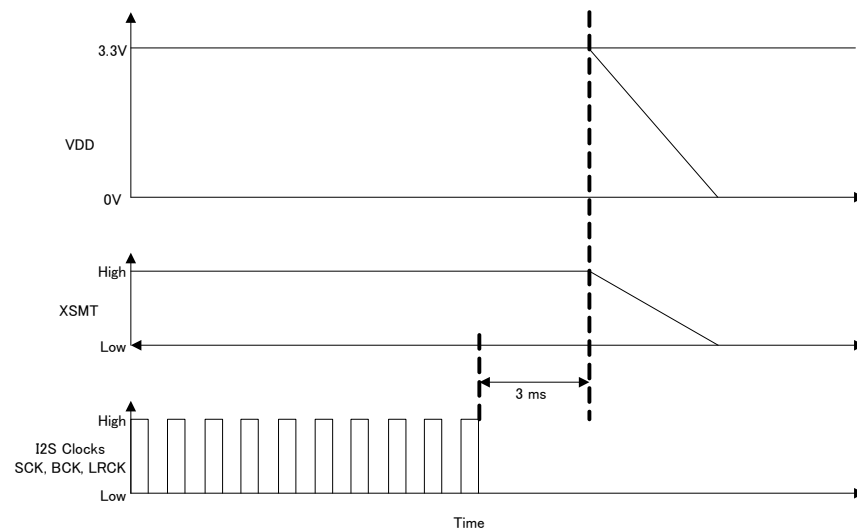

Figure 79. Stop I²C Clocks
2. Stop I²S clocks (SCK, BCK, LRCK) 3 ms before powerdown as shown in Figure 79.